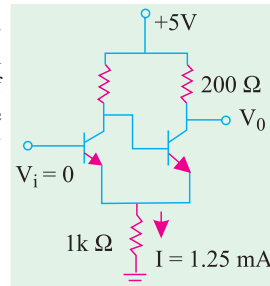

Fig. 65.43
21. In the Schmitt trigger circuit shown in Fig. 65.43 if  $V_{CE(sat)} = 0.1\text{ V}$ , the output logic low level ( $V_{OL}$ ) is